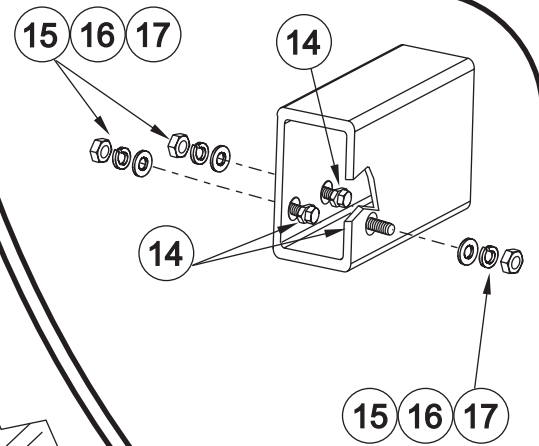

FIGURE 5
- STEP 7. Remove tow hooks by removing the front through bolt and rear bolt that threads into the bottom of the tow hooks. The tow hooks will be reinstalled. **NOTE:** If vehicle is not equipped with tow hooks, place M12 bolt plates through the mounting holes from the inside of the frame. **SEE FIGURE 5.**